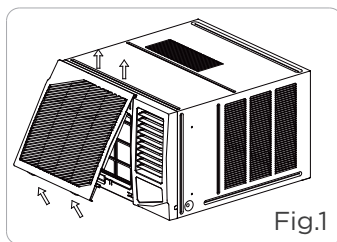

Fig.1
2. Hold the slot under the front panel, then uplift it outwards, and remove the front panel( See Fig. 1)